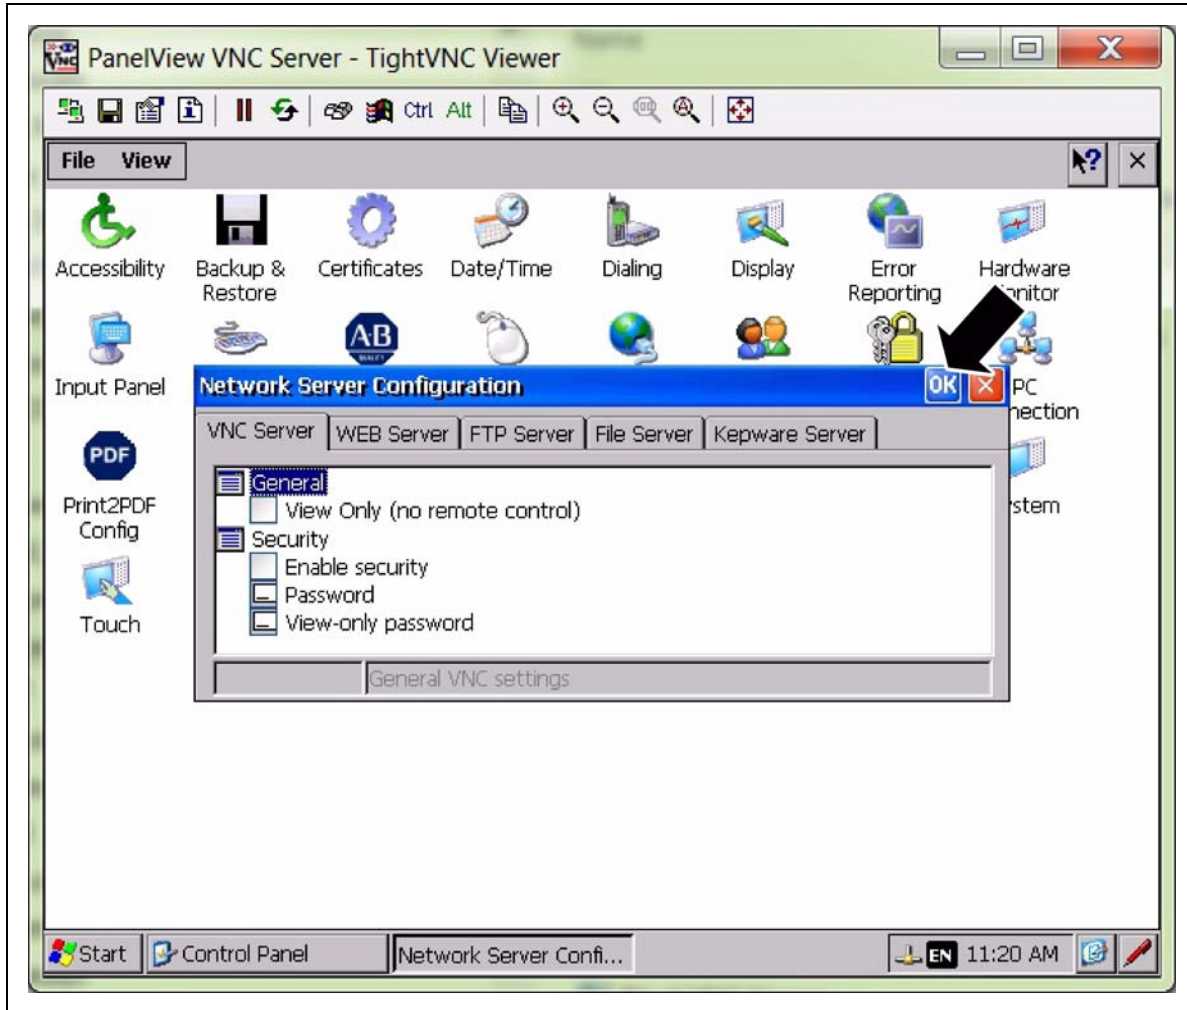

Figure 3M
9. Click “OK” to be taken to the next screen. (See Figure 3M.)